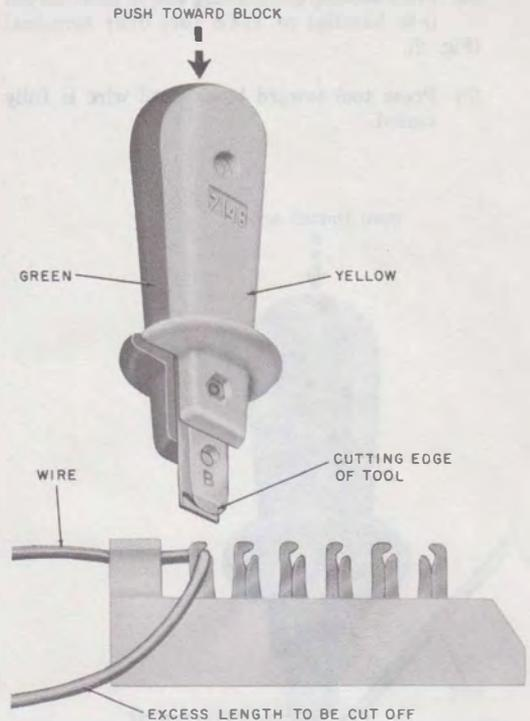

Fig. 7—Preparation for Making Ended Termination
**3.07** To make an ended termination (Fig. 7 and 8) using the 714B tool, observe the following procedure.